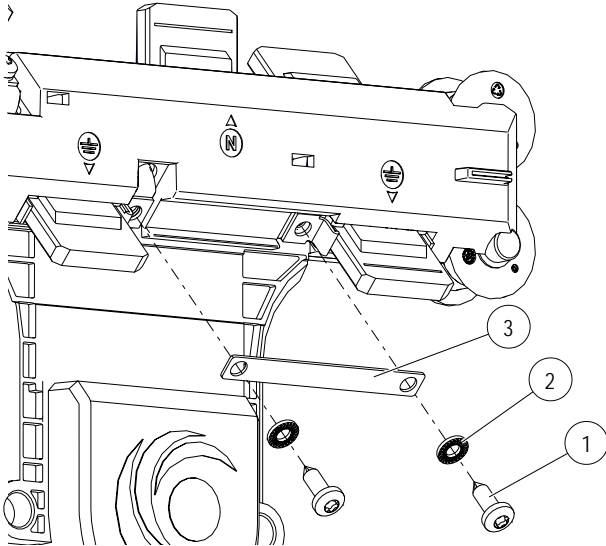

Fig. 109: Remove the contact plate (Pos. 3)
- On the PE also remove the contact plate (Pos. 3) (see Fig. 109).